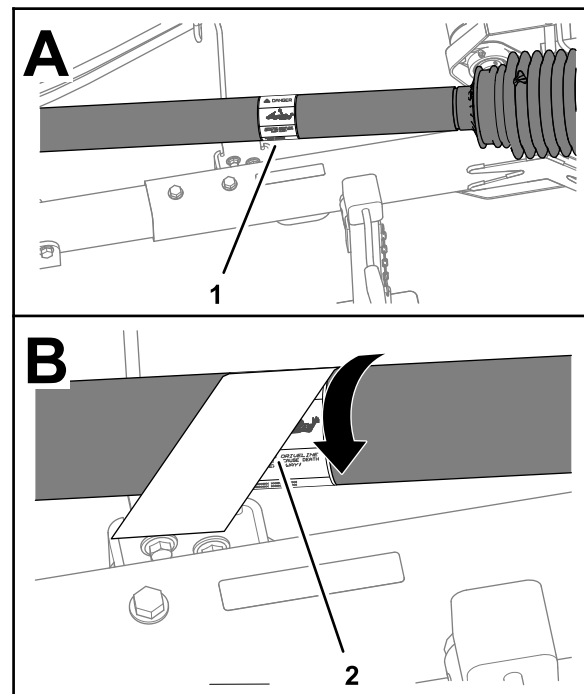

Figure 3
1. Rotate the PTO shaft guard to access the existing entanglement decal (Figure 3).
4. Place the CE entanglement decal over the existing entanglement decal (Figure 3).